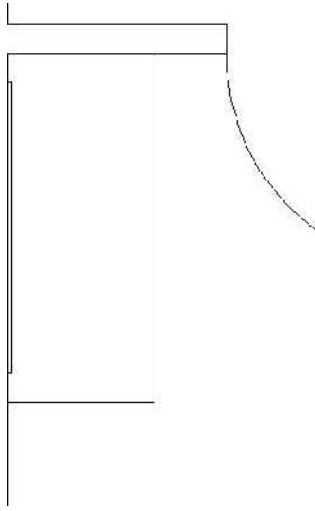

FIGURE 5.65: The sink and mirror
4. Use the FILLET command to clean up the lines to form the sink counter and mirror. You will have to zoom in to each end of the mirror to select the correct end of the mirror's sides and fillet the lines properly. Figure 5.65 shows the partially completed sink and mirror.